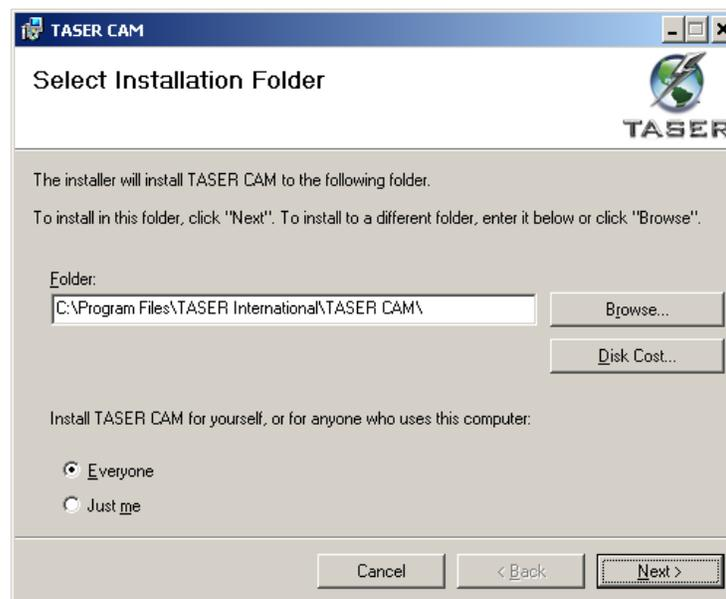

Figure 5
8. Designate the folder where the software will be installed. The wizard will designate a default location (recommended) or you may choose a different location (Figure 5).